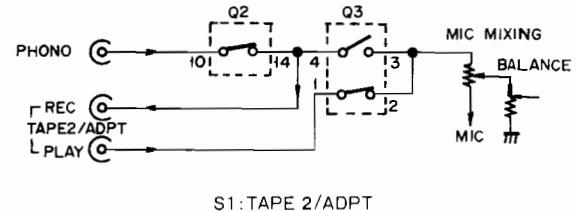

Fig. 8-10 Switching of the TAPE 2/ADPT Switch
2. And since - B is applied to pin 5 of Q3 via S1, the switch formed by pins 3 and 4 of Q3 is switched off. Therefore, TAPE 2 mode remains unchanged when the TAPE 2 switch (S210) is switched on and off. The signal route is outlined in Fig. 8-10.